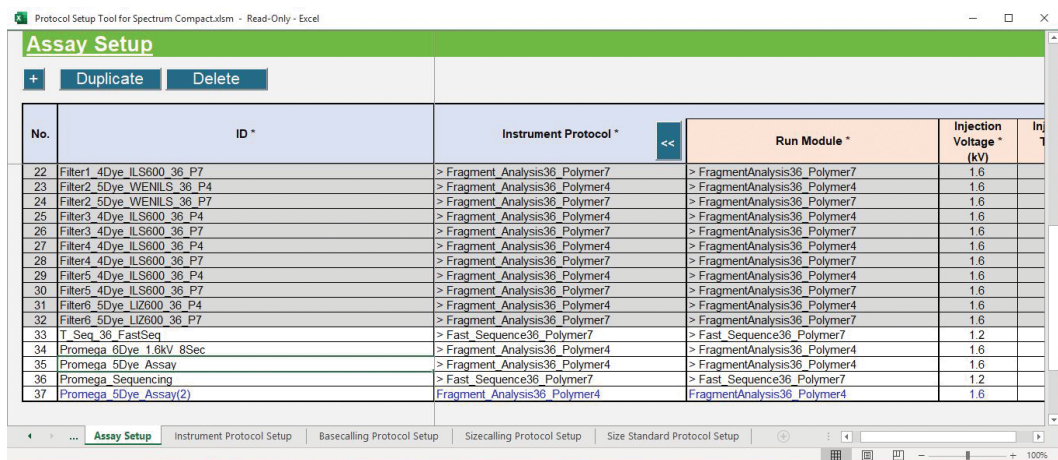

Figure 238. 'Assay Setup' worksheet with Instrument Protocol parameters displayed.
- This opens columns to the right containing the individual parameters that may be edited for that instrument, basecalling, or sizecalling protocol as described in Sections 13.4.2–13.4.4 (Figure 238).